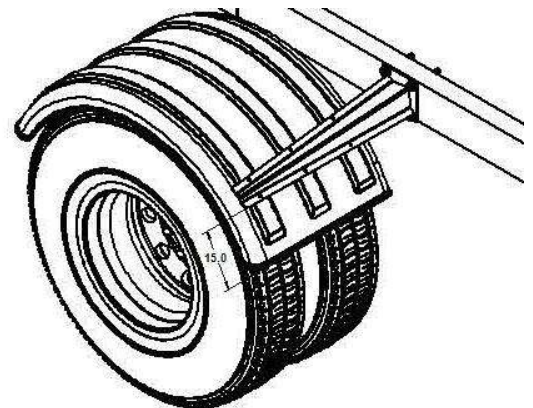

Figure 10
A. If possible, position the mounting brackets so they are located within 15" of the bottom of the fender. This guards against wind blowing the leading edge of the fender back into the tire (Figure 10).